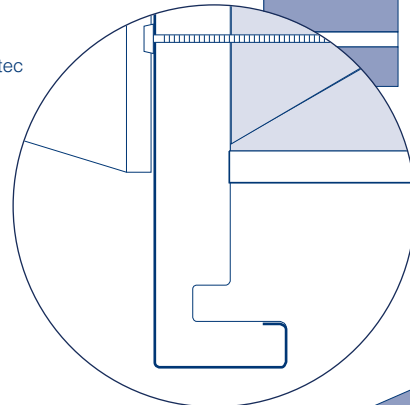

Fig. 7 Square Jumbo used with Gee Pee raised soffit
- Whilst the bottom groove in each board accommodates the soffit board by simple push fit, Fig 7 shows an alternative relationship for the fascia and soffit. The deeper fascia illustrated may be required for reasons of style or appearance.